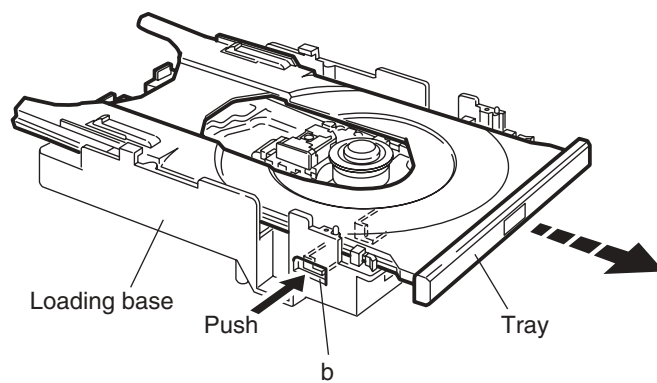

Fig.2-9
2.2.2 Removing the tray (See Fig2-9. and 2-10)